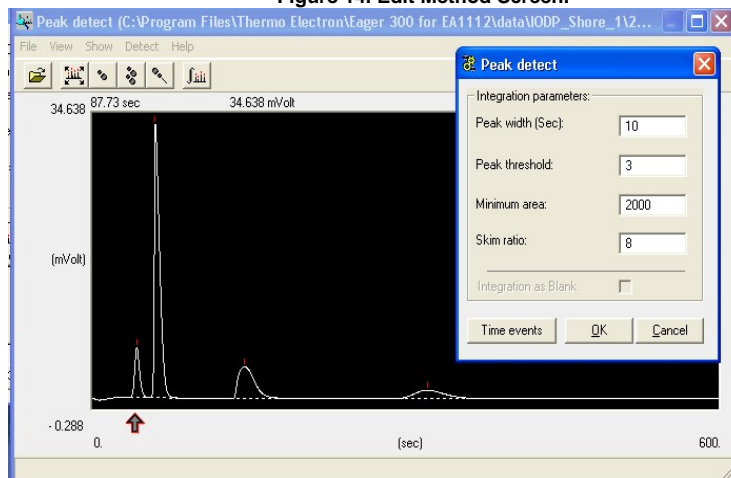

Figure 15. Peak Detect Screen.
6. Four default integration parameters will be indicated. To customize detailed settings, click **Time events**, then **Peak Detect**. (Figure 15).